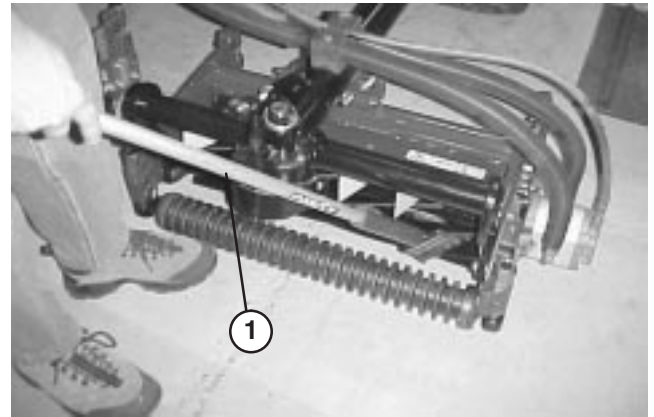

Figure 60
8. Apply lapping compound with a long handle brush (Toro Part No. 29-9100). Never use a short handled brush (Fig. 60).